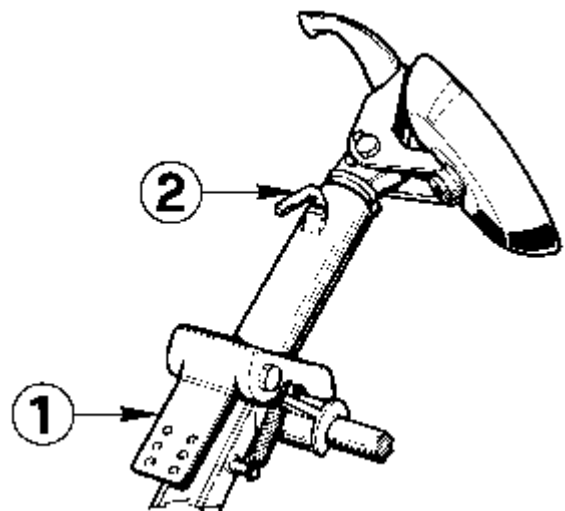

Fig.14
7. To lift the toolholder arm, depress the pedal (#1 Fig. 14) and hold handle (#2 Fig.14).
8. To turn the tool remove pin (#2 Fig.14).